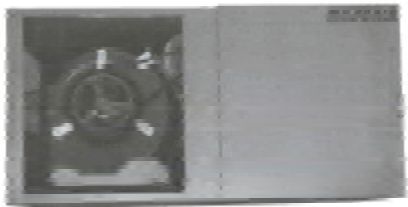

FIG. 3
5. Remove power box assembly which is held by eight (8) #8 x 1/2" screws.
6. Remove grille assembly plate which is also held by eight (8) #8 x 1/2" screws.
7. At this time the blower / motor should be easily accessible. Remove four (4) hex bolts holding blower to cabinet. (See FIG.3.)